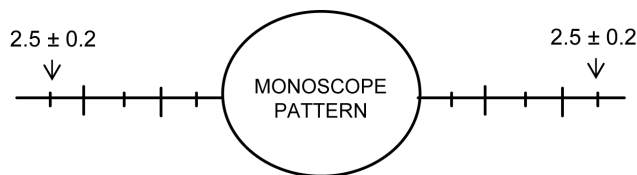

Fig. 1
b. Adjust H-AMP 60 Hz offset so that both edges are within 2.5 ± 0.2 . Refer to Fig. 1.